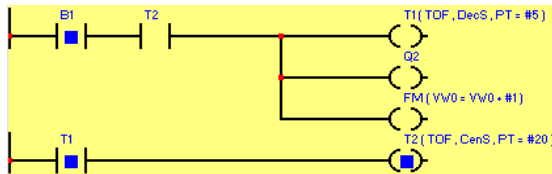
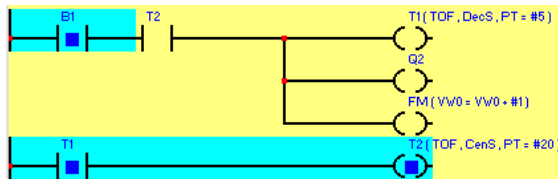

Figure 6.14: option “Highlight active lines” not selected.
Figure 6.15: option “Highlight active lines” selected.
- If this option is chosen also the connections following active contacts and coils are shown. The figures (Figure 6.14, Figure 6.15) show the same portion of the diagram in the two cases.